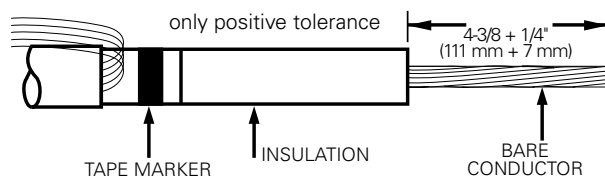

Figure 5. Line illustration of bare conductor length.
- Remove insulation exposing bare conductor to length of 4-3/8" (111 mm). (Refer to Figure 5.)